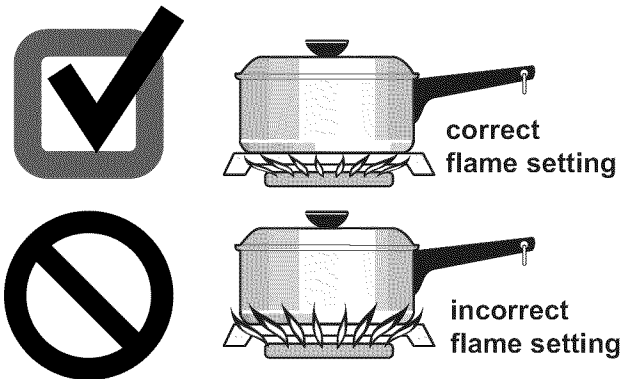

Figure 10: Correct and incorrect flame settings
**⚠ CAUTION** Never extend the flame beyond the outer edge of the cooking utensil. A higher flame wastes energy and increases your risk of being burned by the flame (See Figure 10).